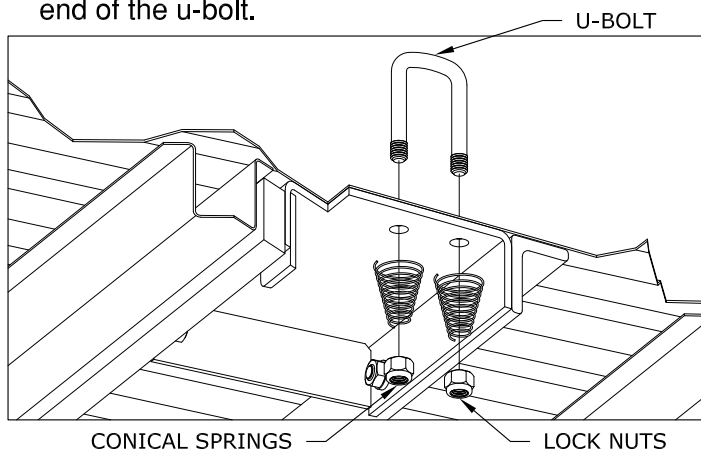

Figure F3: Cut away view from under the bed.
3. **Add springs.** Place a conical spring over each leg of the u-bolts and secure with a $\frac{1}{2}$ " lock nut, see Figure F3. Tighten the lock nut until the nut is flush with the end of the u-bolt.